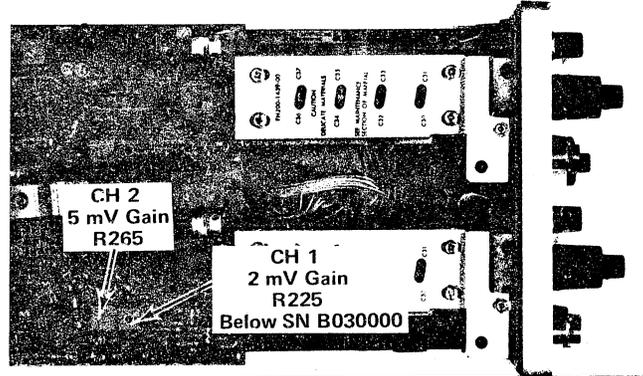

Fig. 5-14. Location of CH 2 5 mV Gain R265 (all SN) and CH 1 2 mV Gain R225 (Below SN B030000).
- f) Adjust-CH 2 5 mV Gain Adjustment, R265 (see new Fig. 5-14), for 4 divisions of deflection.